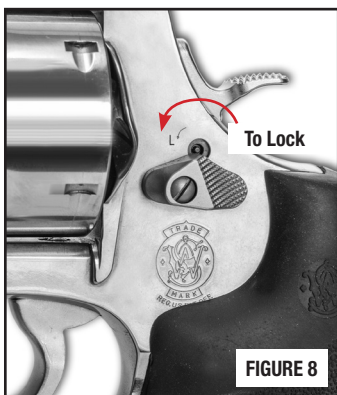

FIGURE 8
- Hold the revolver with the cylinder open in one hand. Insert the key and turn it counter-clockwise using the other hand. The key will turn approximately 90 degrees. The locked indicator flag will become visible on revolvers with exposed hammers. A definite stop and detent will be felt when the key is turned to either the locked or the unlocked position (FIGURE 8).